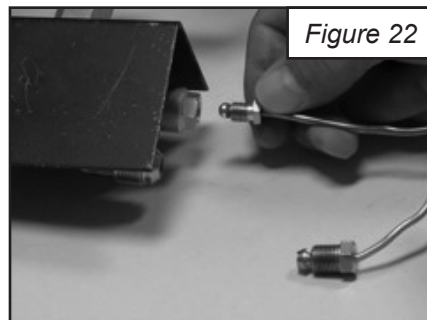

Figure 22
6. Carefully bend the Thermocouple lead (Part #5) and attach to the back of the control valve. (See Figure 22)